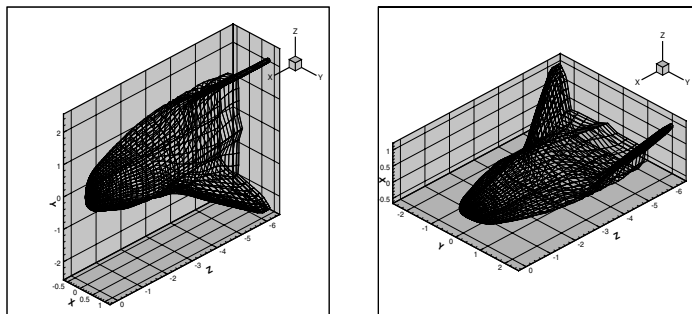

Figure 7-4. A 3-D field plot (left). The same plot after interchanging X and Y (right).
Creating a 3-D field plot from a 2-D plot is usually as simple as selecting 3D Cartesian from the plot type dropdown on the sidebar. For example, suppose you read in the file `spc-ship.plt` from the `demo/3d` directory, an IJ-ordered data set which by default is displayed in 2-D. Selecting 3D Cartesian yields the 3-D surface mesh plot shown at the left in Figure 7-4. The spaceship appears on its side by default; you can change this either by rotating the plot around the X-axis or by interchanging the axis assignments of the X- and Y-variables.
3. Redraw the plot to obtain the view displayed at the right of Figure 7-4.